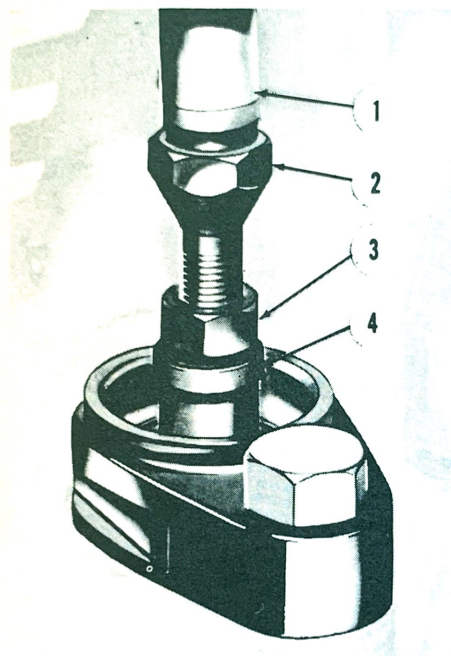

**FIGURE 15. IGNITION TIMER WIRE ROUTING**
**CAUTION** — When reinstalling timer cover, be careful not to pinch any wires. Route wires as shown in Figure 15.
**CAUTION** — When reinstalling timer cover, be careful not to pinch any wires. See Figure 15.